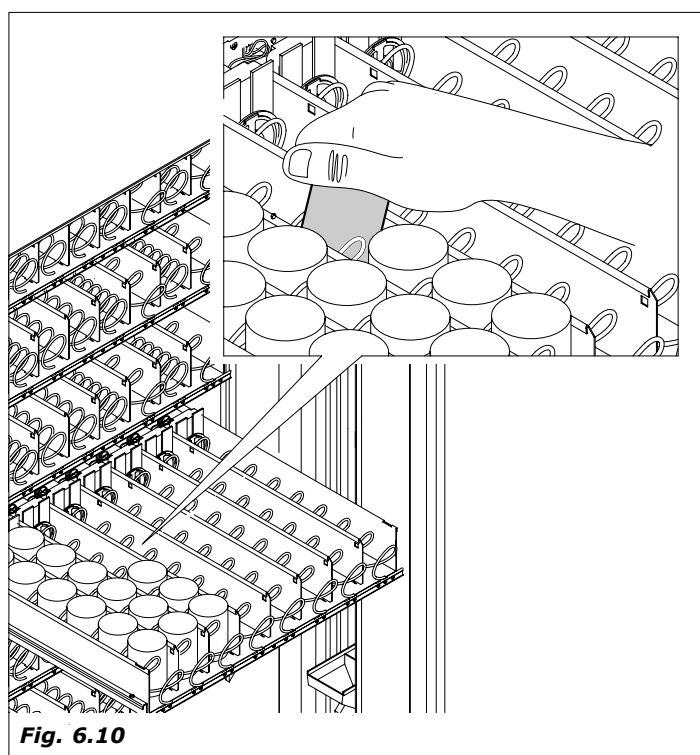

Fig. 6.10
- insert the products starting from the front of the drawer to the innermost part. Do not leave any space empty (Fig.6.10)